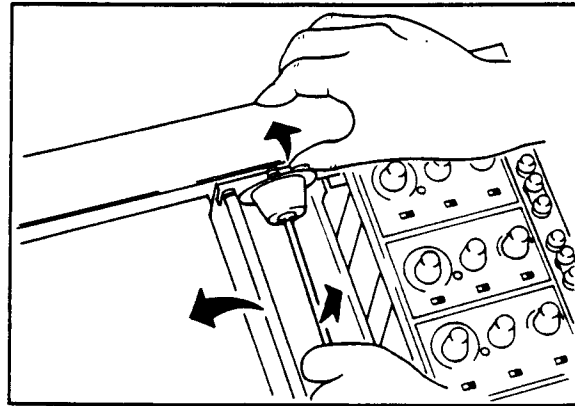

Figure 3-1.
- (1) Pull the lever located to the lower right of the flatbed, gaining access to the roll chart compartment. Press the plate spring on the upper part and release the stock roller as shown in Figure 3-1.
- (2) Remove the stock roller flange (left-handed) and insert the roll chart. Make sure that the notch on the roll core matches the stock roller pin.
- (3) To mount the roll chart in its compartment, insert first the lower axle, then press the plate spring and insert the upper axle.
- (4) Pull out manually approx. 15 to 20 cm of chart paper and return the stock roller to its original position.